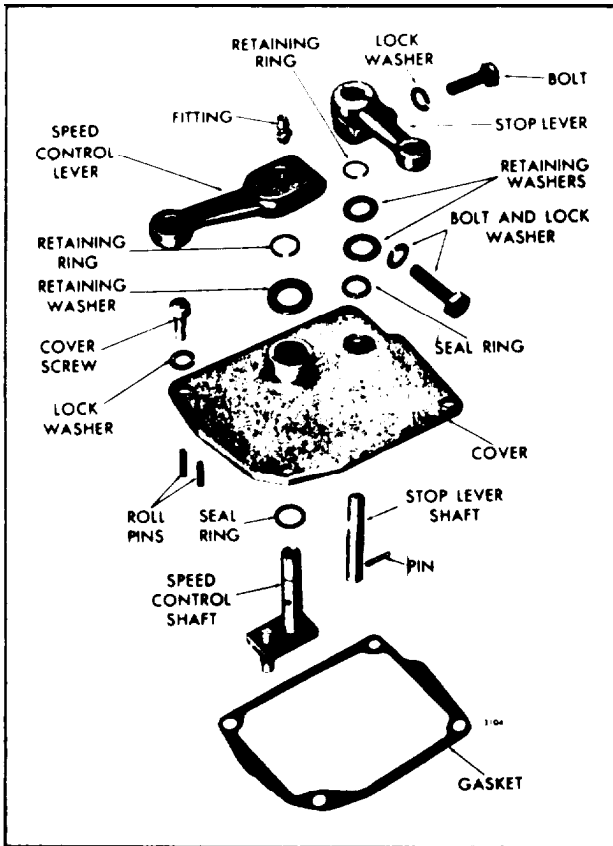

Fig. 2 Governor Cover Details and Relative Location of Parts
1. Remove the return spring and clip from a single lever cover only, then loosen the governor speed control lever retaining bolt and lift the control lever from the speed control shaft (Fig. 2).